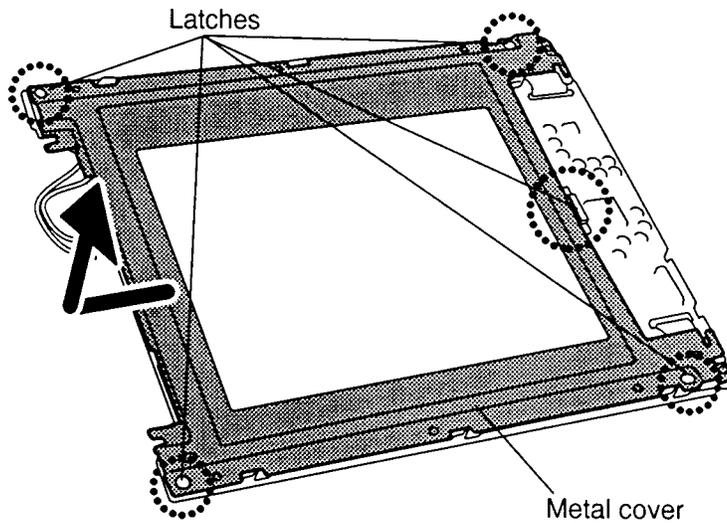

Figure 4-40 Removing the metal cover.
4. Lift the left corners slightly, then slide the **metal cover** out gently to the left to free it of the **latches** marked by circles in figure 4-40. Lift off the cover.
4. Lay the **metal cover** on the LCD panel making sure the latches marked by circles in figure 4-40 fit into their corresponding **notches** on the LCD panel. First, fit the **larger latch** at the center of the edge facing the inverter board into its **notch**, which should guide the other fittings into position.